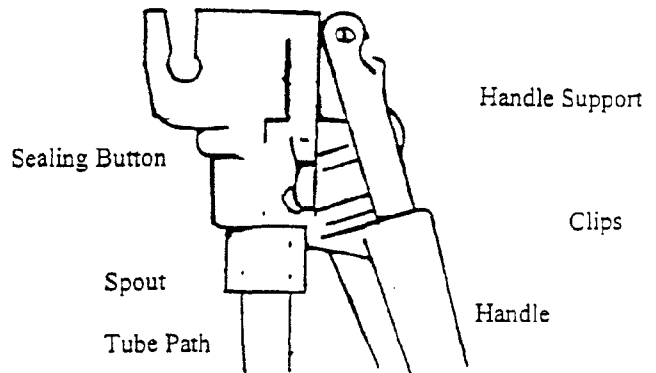

Fig. 1
- b. Grasp clips on handle. Squeeze clips until they are free from panel. Pull straight down on handle (*see Fig. 1*).